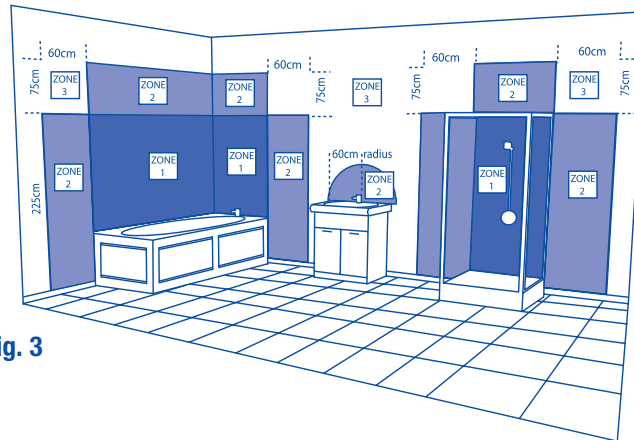

Fig. 3
- IP65 rated luminaires are protected against dust and jets of water. It is suitable for installation in locations containing a bath or shower, as defined by the I.E.E Wiring Regulations, Zones 1, 2 & 3 where water jets are likely. See Fig.3 below.